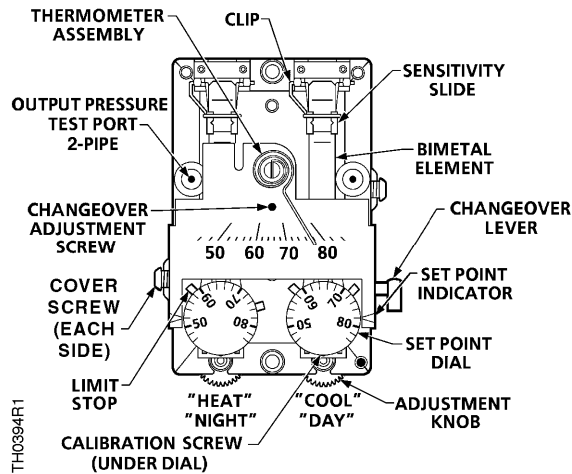

Figure 6. TH 192 DN and DNV Thermostat Details.
2. Place a screwdriver in the center of the thermometer assembly (Figure 6). Carefully rotate thermometer assembly until pointer tip indicates the correct room temperature.